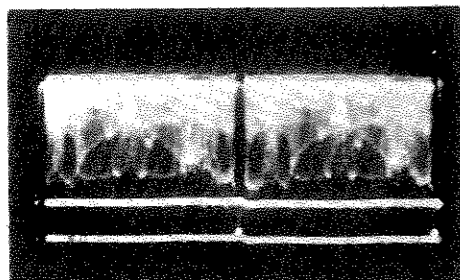

Figure 1B. Vertical Sync Pulse
6. In order to obtain the vertical sync pulse on the oscilloscope, the procedure to be followed is the same as that in paragraph 5 above, except that the preset "TV/V" position of the SWEEP selector is used instead of the "TV/H" position. The pattern will resemble that in Figure 1B.